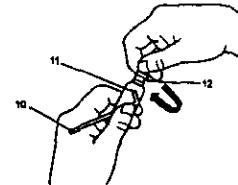

Fig. 32
8. To insert an accessory into the flexible shaft collet, rotate collet nut (12) until hole in shaft aligns with hole in flexible shaft collar (11) (see Fig. 32). Insert L-key (10) into aligned holes and use flat wrench to turn collet nut counter clockwise.